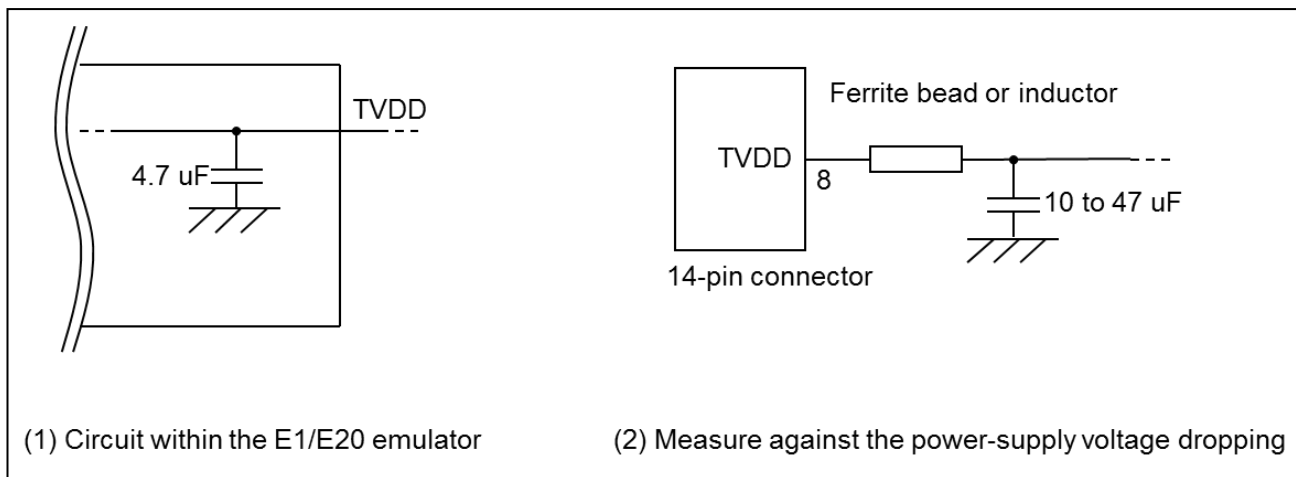

Figure 2-7 Circuit Configuration for Hot Plug-in
Pin 8 of the E1 emulator is connected to a 4.7- μ F capacitor as shown in (1) in Figure 2-7, so hot plug-in connection of the emulator may lead to a momentary drop in the power-supply voltage on the user system. This might cause the MCU to be reset.
As shown in (2) in Figure 2-7, this effect can be reduced by placing a ferrite bead (or inductor) and relatively large capacitor with low equivalent series resistance near the TVDD line of the connector for connection of the emulator. Note that this measure will not completely eliminate the voltage drop. Note that hot plug-in connection is only for use during debugging, and a separately sold hot plug-in adapter is necessary to use this function otherwise.